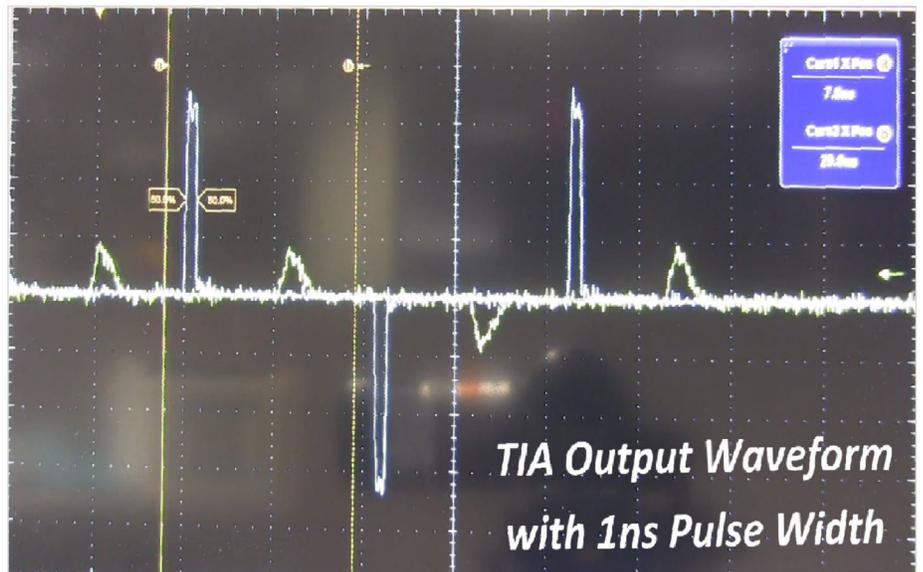

Figure 16: 1ns Output Waveforms
**Figure 16** shows the TIA output waveforms at 1 ns. The blue waveform is the input of the AWG. The yellow waveform is the output of the TIA.